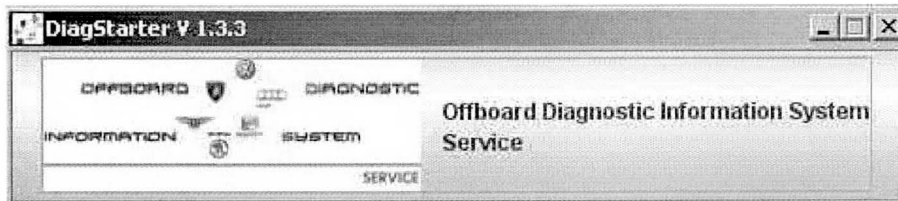

Figure 2
- When prompted, select Offboard Diagnostic Information System (Figure 2) and follow all on screen prompts